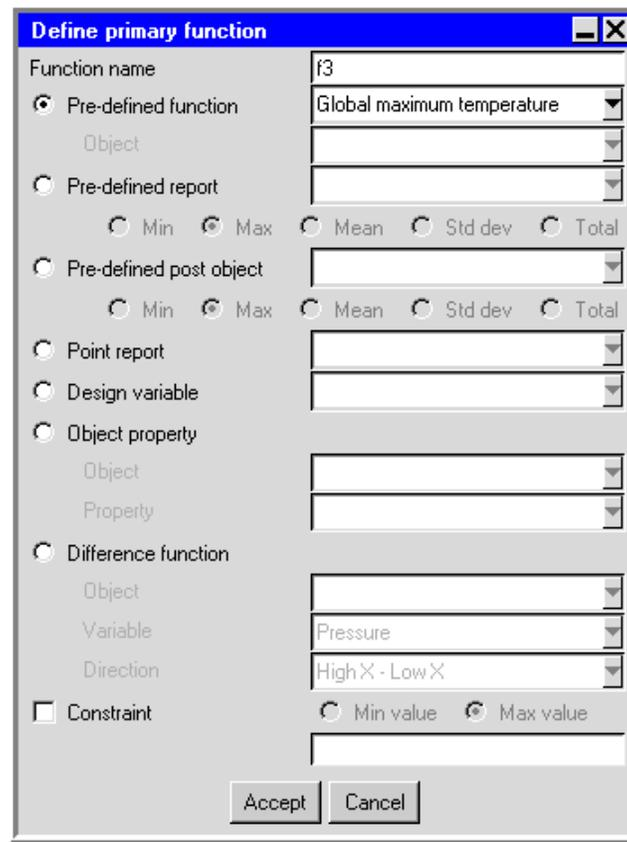

Figure 23.2.4: The Define primary function Panel
- (a) To create a primary function, click the New button under Primary functions. This will open the Define primary function panel (Figure 23.2.4).